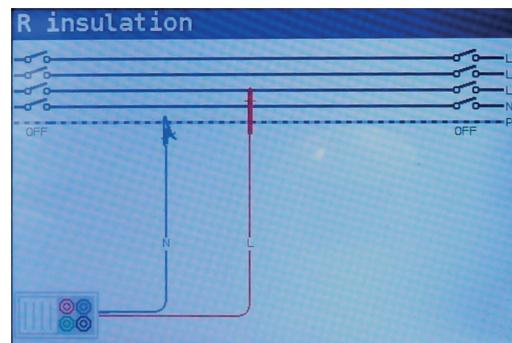

Figure 4.2: Connection of universal test cable
- Step 3** Ensure that no voltages are present on the item for testing. Connect the test leads to the instrument. Connect the test cables to the item under test. (see figure 4.2) to perform insulation resistance measurement.